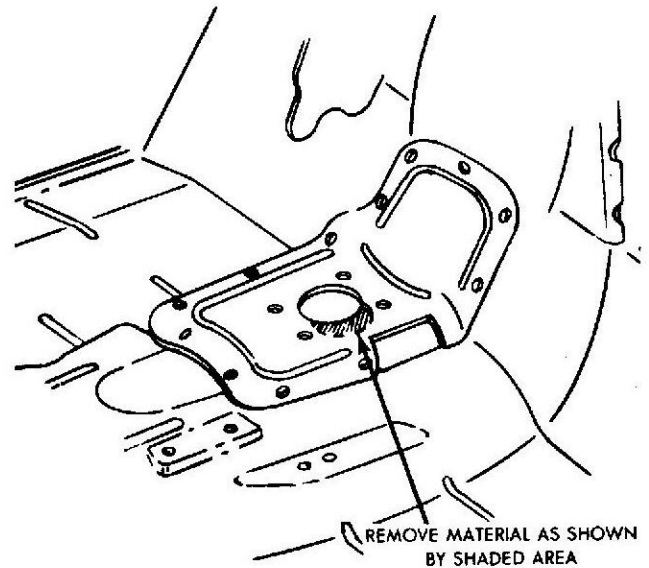

Fig. 1
- (1) Using large screwdriver, disengage shift lever boot retainers from floorpan.
- (2) Slide boot up shift lever.
- (3) Check tower and floorpan for actual contact or for signs of contact such as chipped paint or shiny metal.
- (4) If contact between floorpan and tower is not evident proceed with diagnostic procedures to isolate cause of noise. If contact is evident proceed to step (5).
(5) Remove a piece of floorpan large enough to provide a one inch (1") clearance between floorpan and tower. Cutting operations may be done using an air chisel or by drilling a series of closely spaced holes and cutting with a sharp cold chisel (Fig. 1).
(6) Slide shift lever boot down into position and secure to floorpan with retainers.